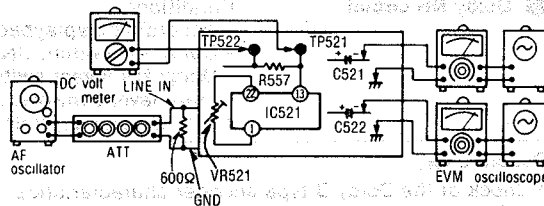

Fig. 25
1. Make the connections as shown in fig. 25 and apply 1kHz  $-27\text{dB}$  signal from LINE IN, and set the noise reduction selector to dbx IN position.